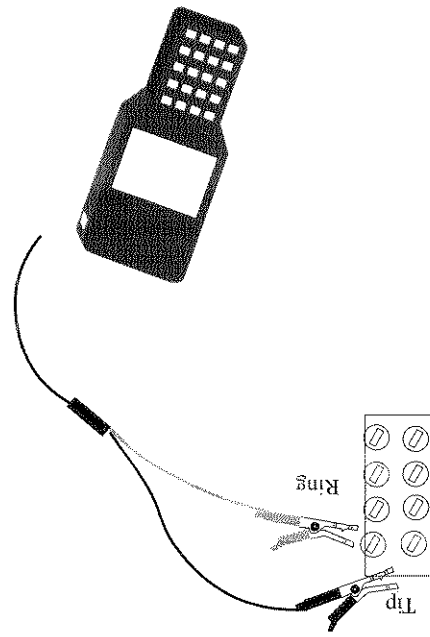

Figure 5-6 Connecting the Sunset with RJ-45 to Alligator Clips
- 3) Connect to the circuit. A common method is to use an RJ-45 to alligator clip cable. Plug the RJ-45 into the Sunset, at the jack on the right side. Use the alligator clips to clip directly onto the copper pair at the NID, Cross-Box (B-Box), aerial or other access points. Refer to Figure 5-6.